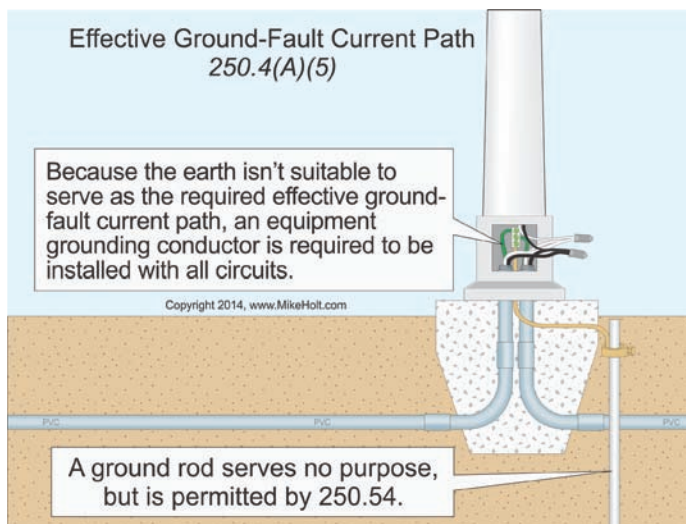

Figure 250–13
**Question:** What's the maximum fault current that can flow through the earth to the power supply from a 120V ground fault to metal parts of a light pole without an equipment grounding conductor that's grounded (connected to the earth) via a ground rod having a contact resistance to the earth of 25 ohms? **Figure 250–14**